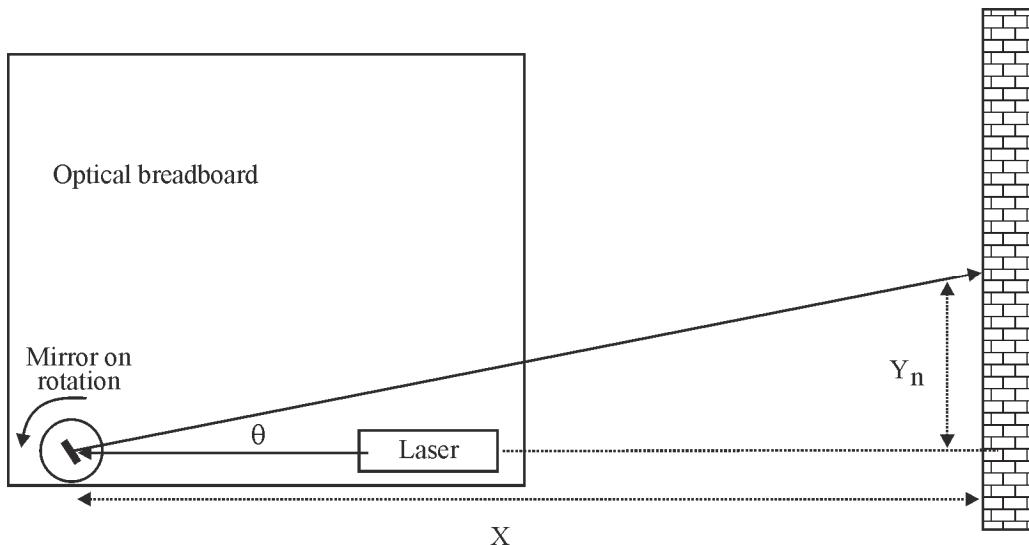
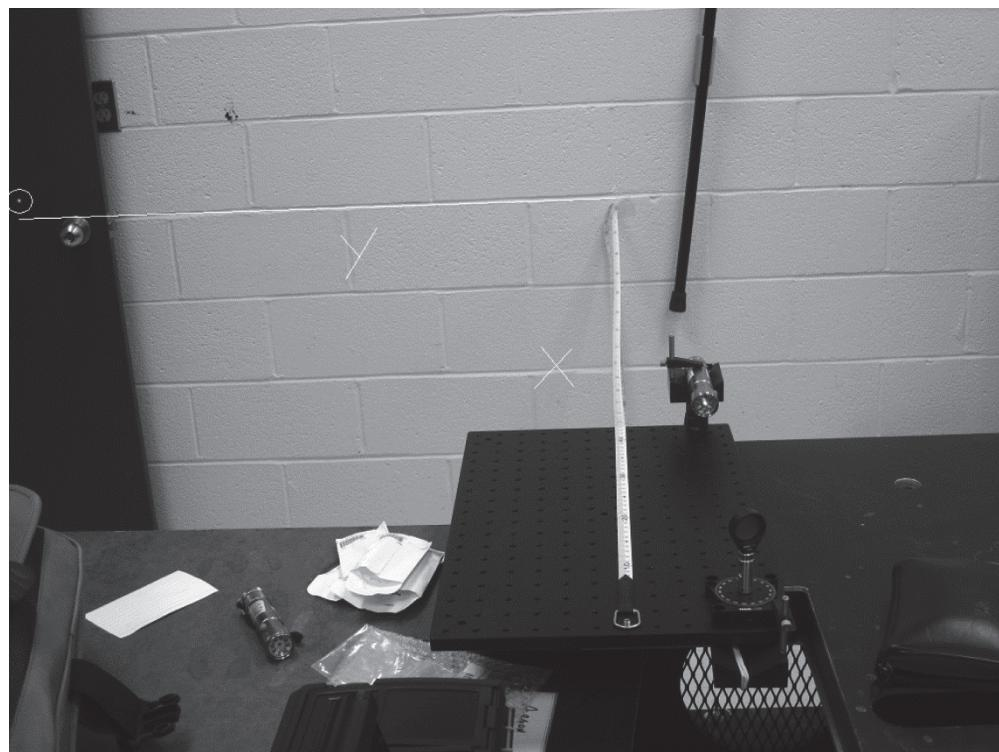
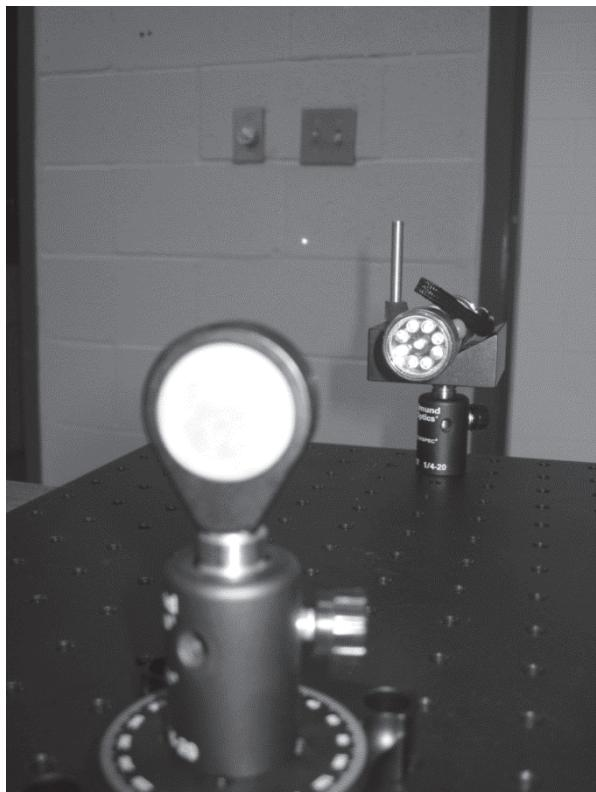

Figure 36 – Law of Reflection Set-up
Figure 37 – Law of Reflection Set-up
Figure 38 – Law of Reflection Set-up
4. Mount a round mirror (LI-8) to a 1" fixed lens mount (LI-7). Mount the 1" fixed lens mount, with mirror mounted, to a 1.5" post. Insert this post into the post holder mounted on the rotational stage. Refer to Figure 36, Figure 37, and Figure 38.